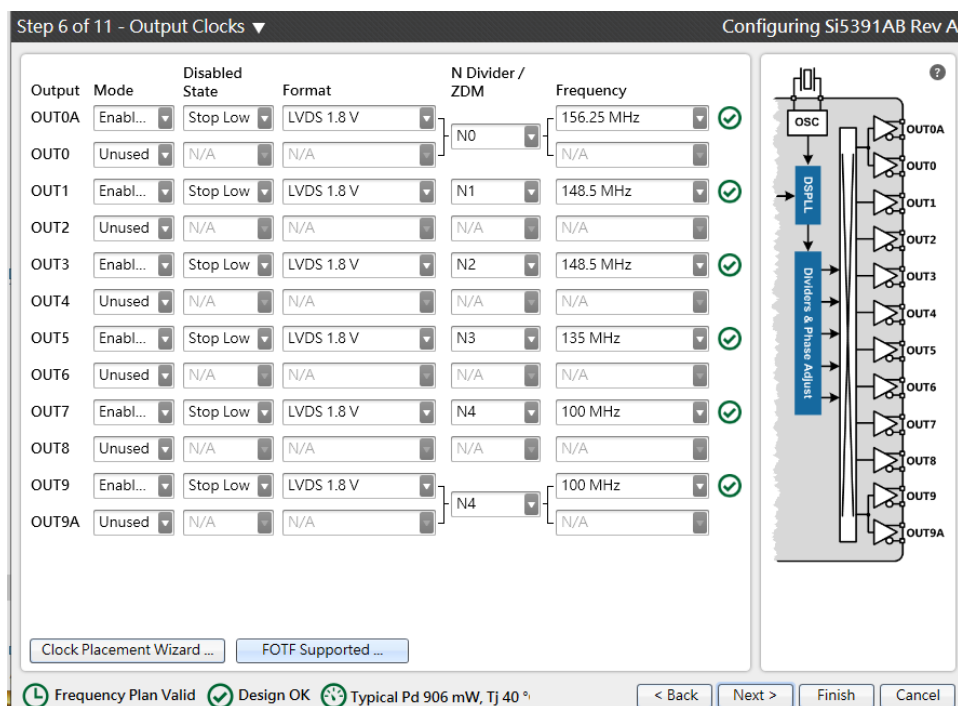

Figure 2-13 Specify Output Clock Frequencies on CBPro
- In the Output Clocks page, specified desired output frequencies and click “Finish” button as shown in **Figure 2-13**.
- Press FPGA User Button[1] to reset Si5391. CIPRI_REFCLK_p shows 184,320,000 Hz as shown in Figure 2-13